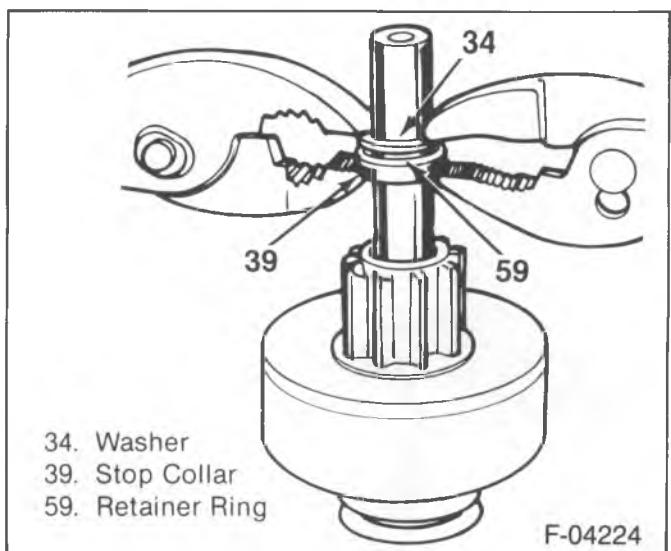

Figure 17—Forcing the Collar over the Retainer Ring
7. Stop collar with the retainer ring (figure 17).
8. Thrust collar (39) or pinion stop washer (34) with the flat side away from the pinion.
9. Brake washer (34) on the commutator end of the armature shaft (SD-300).